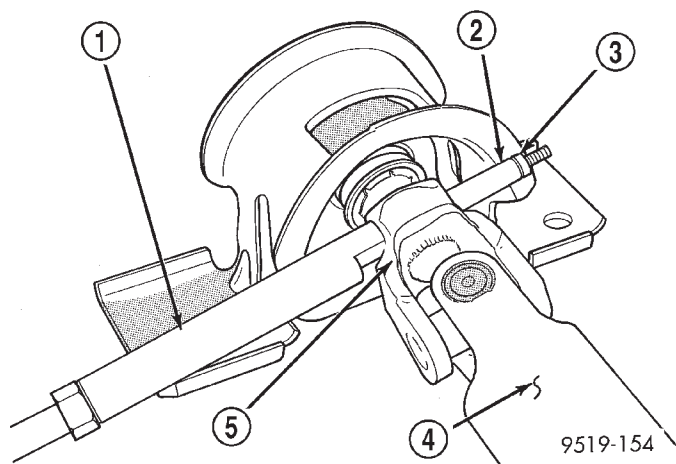

Fig. 31 Tool Set-Up For Installing Roll Pin
(1) Start roll pin into flex joint prior to installing intermediate shaft on steering column shaft. Install roll pin into just far enough to square roll pin to hole in flex joint. If roll pin is installed too far, flex joint will not slid onto steering column shaft.
(2) Install intermediate shaft on steering shaft until correctly positioned to allow roll pin to be installed in coupler.
(3) Install Remover/Installer, Special Tool 6831-A, through center of roll pin and install knurled nut as shown (Fig. 31).
(4) Using Remover/Installer (Fig. 31), install roll pin into the coupler until roll pin is fully and evenly installed through both sides of the coupler assembly.
(5) Reinstall steering column as necessary back in vehicle. Refer to STEERING COLUMN in this section for the required procedure.